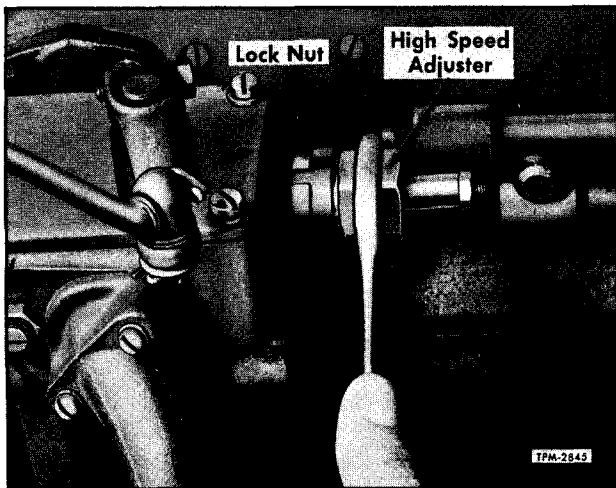

Figure 15—Adjusting No-Load High Speed
1. Loosen the high speed spring retainer lock nut (fig. 15), using a spanner wrench.
3. Turn high speed adjuster IN to increase, or OUT to decrease speed (fig. 15) until desired no-load setting is obtained.